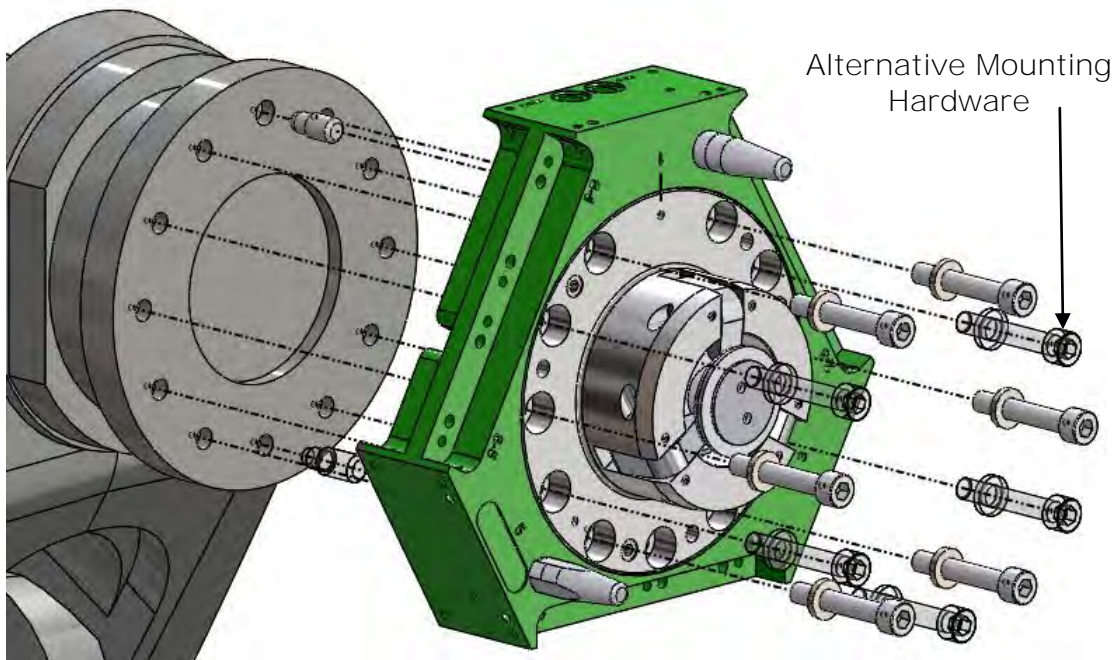

Figure 5.1-2. E160 Robot Adaptor Installation w/ M10 Hardware
1. Locate the Robot Adaptor to the manipulator mounting flange utilizing the locating boss and one (1) M10/M12 stepped locating dowel. Alternatively, the Robot Adaptor can be located using one (1) M10/M12 stepped locating dowel and one (1) M10/M13 stepped locating dowel (Figure 5.1-2).